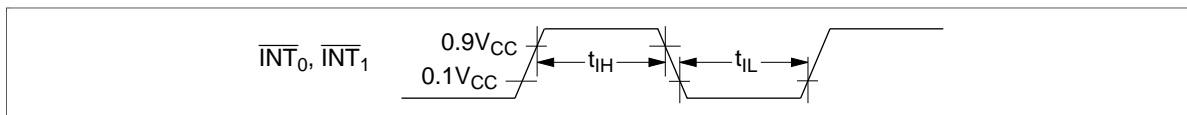

Figure 49 Interrupt Timing
4. See figure 49. The unit t_{cyc} is applied when the MCU is in standby mode or active mode.
6. See figure 49. The unit t_{subcyc} is applied when the MCU is in watch mode or subactive mode. $t_{subcyc} = 244.14 \mu\text{s}$ (when a 32.768-kHz crystal oscillator is used)